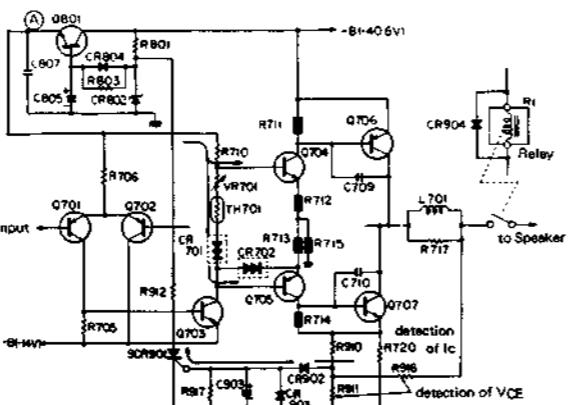

Fig. 4
**(3) ASO (Area of Safety Operation) detection circuit (Output transistor protection) (Fig. 4)**